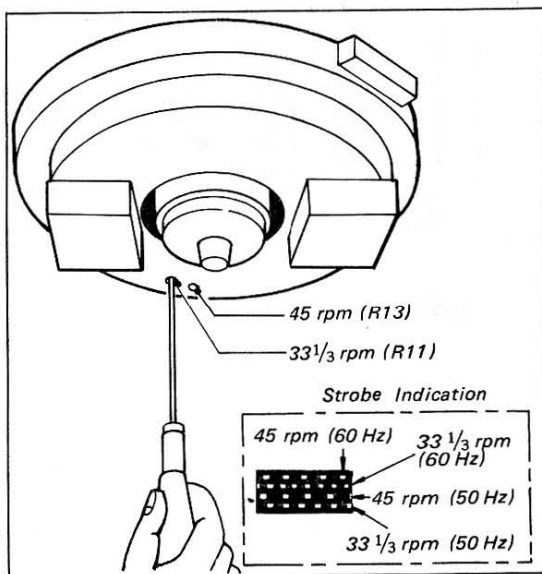

Fig. 3-1. Speed adjustment
2. Set the 33 1/3/45 control to the 45 position, and then turn adjustable resistor R13 (See Fig. 3-1) to obtain the correct indication.
3. After completing the 45 rpm adjustment, proceed to the 33 1/3 rpm adjustment as previously described, except turning adjustable resistor R11 (See Fig. 3-1).